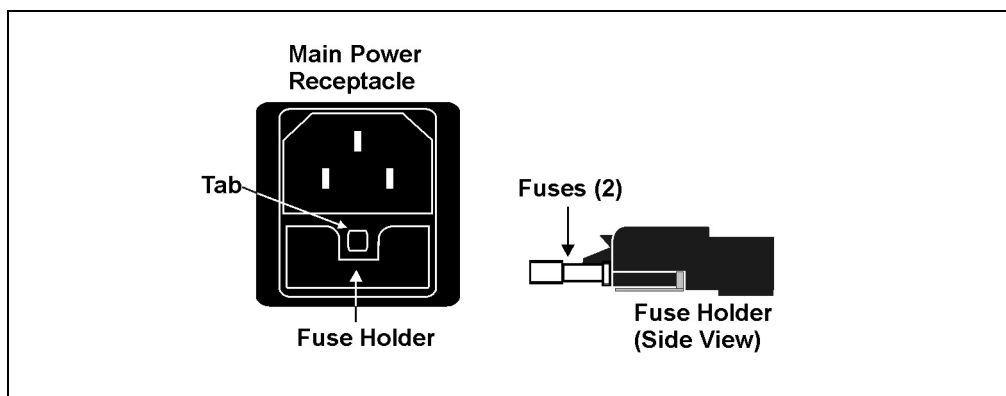

Figure 5-20. Main Power Fuse Holder
2. The fuse holder is part of the main power receptacle (see Figure 5-20) on the ICS-1000 rear panel. To remove the fuse holder, squeeze the tab on the top of the holder to release it and pull the holder straight out of its compartment.